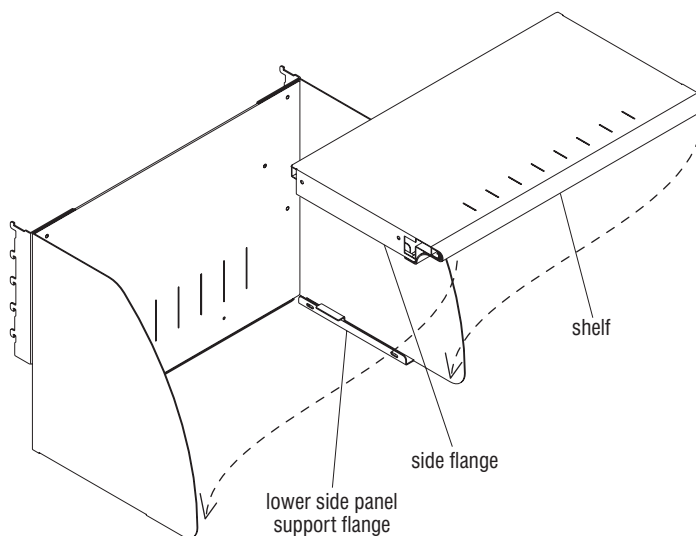

Figure 2
2. Set the shelf into position by locating the side flanges of the bottom shelf over the lower support flanges of the side panels (Figure 2).